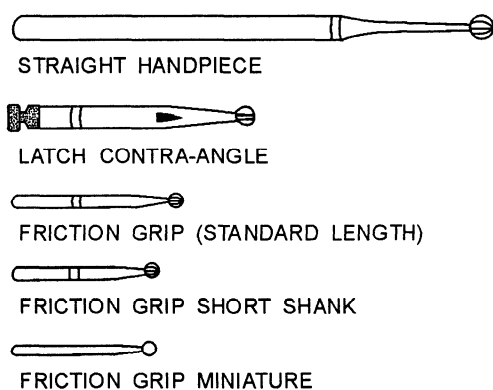

Figure 11-13.—Classification of rotary instruments
We have already discussed the several types of handpieces used in dentistry. Each rotary instrument is used in a particular handpiece. To indicate in which handpiece the rotary instruments function, they have been classed as friction grip, straight handpiece, or latch contra-angle handpiece types (fig. 11-13). The friction grip (FG) instruments are abbreviated as FG and are used in high-speed handpieces and friction grip low-speed contra-angles. These burs have small, smooth shanks that are held in the handpiece by friction against a metal or plastic chuck, or by a wrench-tightened metal chuck. Friction grip burs are available in short shank and miniature (pediatric), as well as the commonly used standard length.